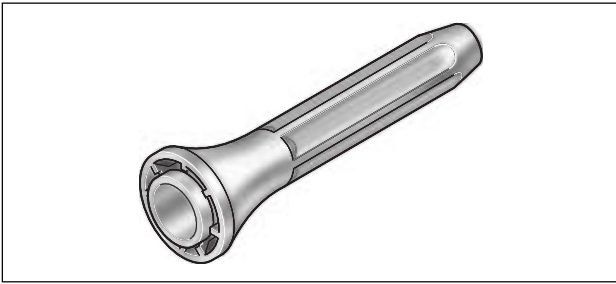
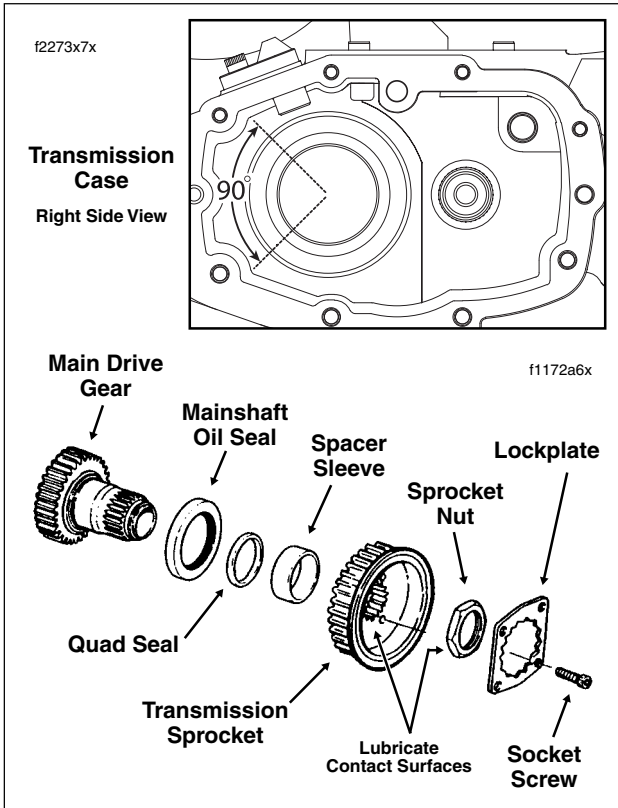

Figure 7-31. Main Drive Gear Large Oil Seal Installer
Figure 7-32. Install Transmission Sprocket Components
1. Install **new** main drive gear bearing using the MAIN DRIVE GEAR REMOVER/INSTALLER (Part No. HD-35316B). To prevent damage, always apply force to the bearing outer race during installation. Install a **new** retaining ring with the beveled side out and the 90° opening facing the rear. See inset of Figure 7-32. Install the main drive gear in the transmission case using the special tool.
3. With the garter spring side out (toward the transmission case), place a **new** seal on lip of MAIN DRIVE GEAR LARGE OIL SEAL INSTALLER (Part No. HD-41496). See Figure 7-31. Slide the tool over the mainshaft so that it is positioned squarely over the bearing bore in the transmission housing. Hand press the seal into the bore; a rubber mallet may be used to lightly tap the driver, if necessary. Install the quad seal. See Figure 7-32.